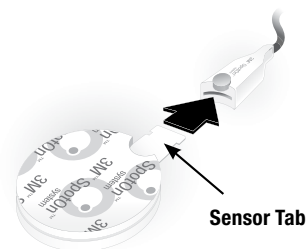

Figure 7: Connect the sensor to the sensor cable
3. Connect the SpotOn temperature sensor to the sensor cable connector. Ensure the sensor tab is properly connected and is fully inserted into the sensor cable (Figure 7). The display on the control unit will change to the ready screen (See "Ready" on page 14) once it confirms the sensor connection.